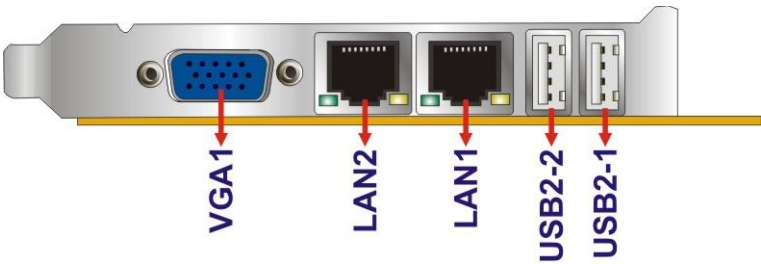

Figure 3-32: External Peripheral Interface Connector
See Figure 3-32
**CN Location:** See Figure 3-32
See **Figure 3-32**